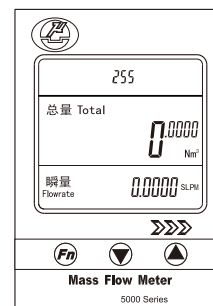
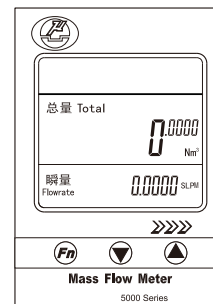

Figure 6-9 Multi-device communication mode
Figure 6-10 Single-device communication mode
#### (4) Communication Modes switches (Figure 6-9, Figure 6-10)
- Set the address of the meter (value of **SEt Addr**) as (3).E. such as 255;
- Set the meter to *Multi-device communication mode* (select value of **PrOTOCOL** to P1-255 or P2-255) as (3).D;
- Set the meter to *Signal-device communication mode* (select value of **PrOTOCOL** to P0-000) as (3).D;